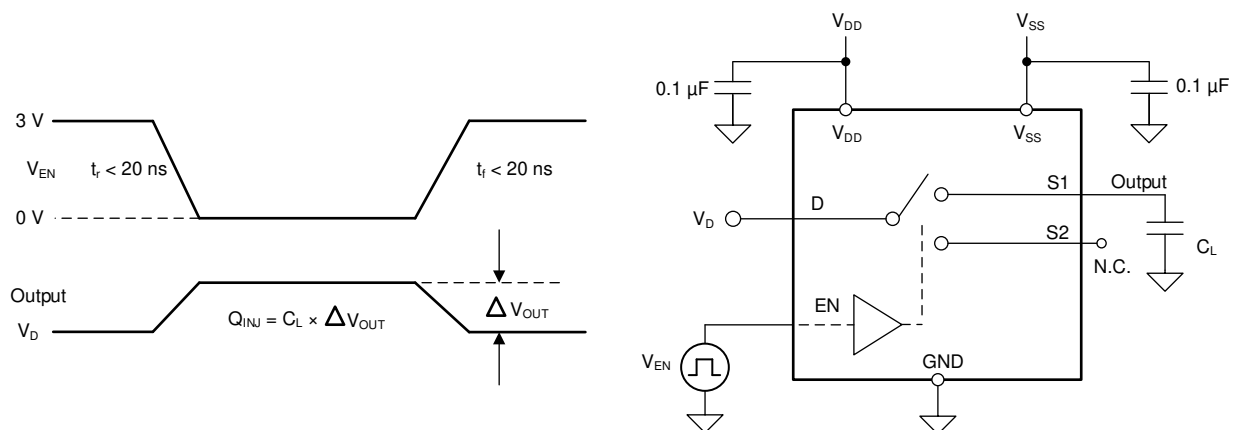

图 6-9. Charge-Injection Measurement Setup
The TMUX6219-Q1 has a transmission-gate topology. Any mismatch in capacitance between the NMOS and PMOS transistors results in a charge injected into the drain or source during the falling or rising edge of the gate signal. The amount of charge injected into the source or drain of the device is known as charge injection, and is denoted by the symbol  $Q_C$ . 图 6-9 shows the setup used to measure charge injection from source (Sx) to drain (D).